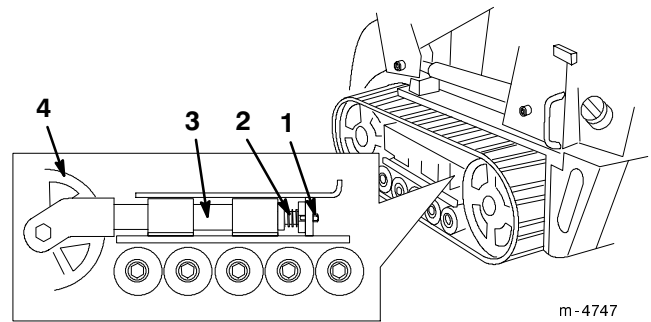

Figure 32
3. Remove the locking bolt and nut (Fig. 32).
4. Using a 1/2 in. drive socket, release the drive tension by turning the tensioning screw clockwise (Fig. 32 and 33).